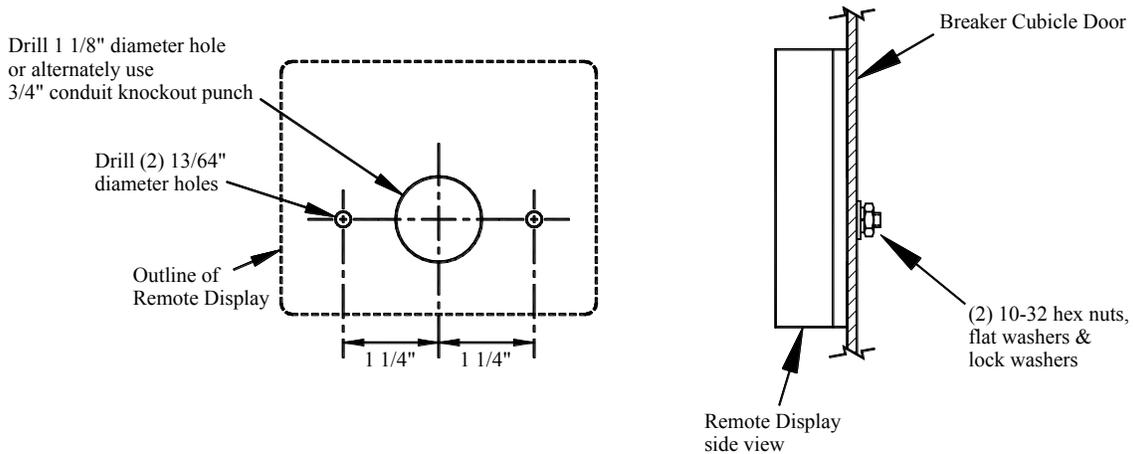

Figure 5
1. Find a suitable location on the cubicle door and mark the location of the three (3) holes using the dimensions in Figure 5.
2. Drill two (2) 13/64" mounting holes.
4. Attach the remote display to the front of the breaker door using two (2) 10-32 hex nuts, flat washers and lock washers.